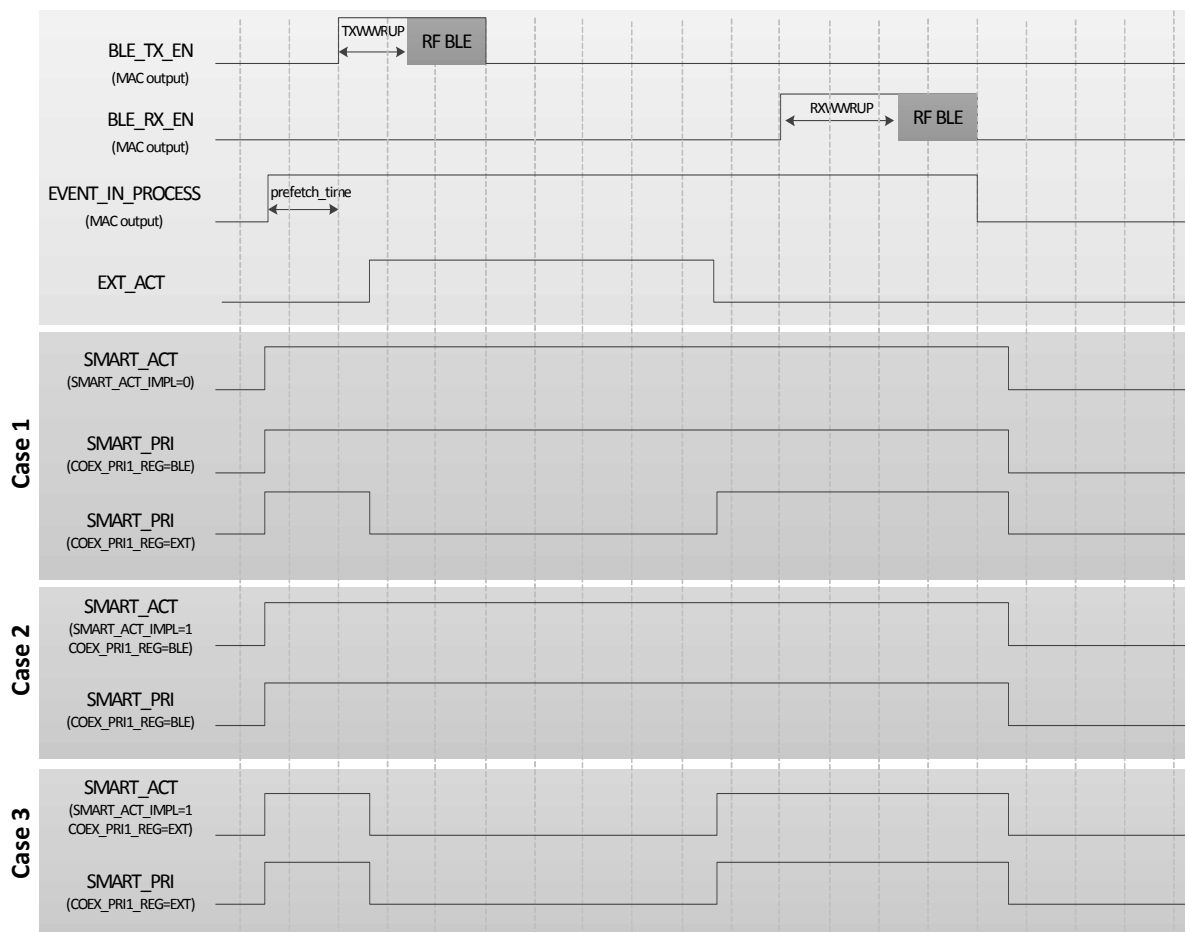

Figure 124: Coexistence signalling cases
2. SMART_ACT: this is an output from the DA14680 and when asserted it designates that the DA14680 is transmitting or receiving hence an external device should be aware of the radio activity. The exact timing of the assertion of this signal is depicted in Figure 124.
An overview of the aforementioned scenarios is presented in Figure 124.